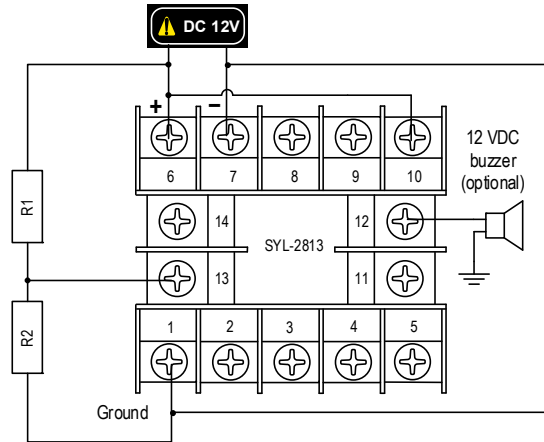

Figure 1. Wiring diagram of measuring voltage on Channel1 of SYL-2813.
1) Two identical 1/4 Watts resistors (R1 and R2) are needed. The resistance should be in the 1-2 K Ω range. The wiring example of measure the voltage in Channel1 of SYL-2813 is shown in Figure 1.